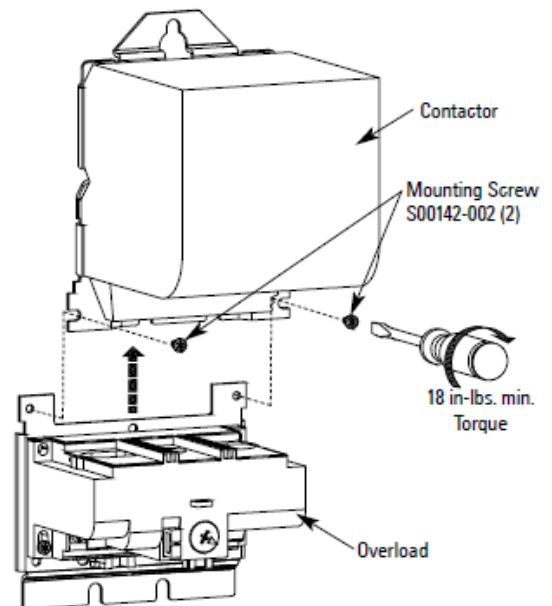

Figure 2
1. Align mounting holes on both overload and contactor mounting plates. Mount the plate with ESP100/ESP200 overload to contactor Cat. No. 40HP32A*, 40IP32A*, 40JG32A* using the (2) screws S00205-005 as shown in Figure 2.